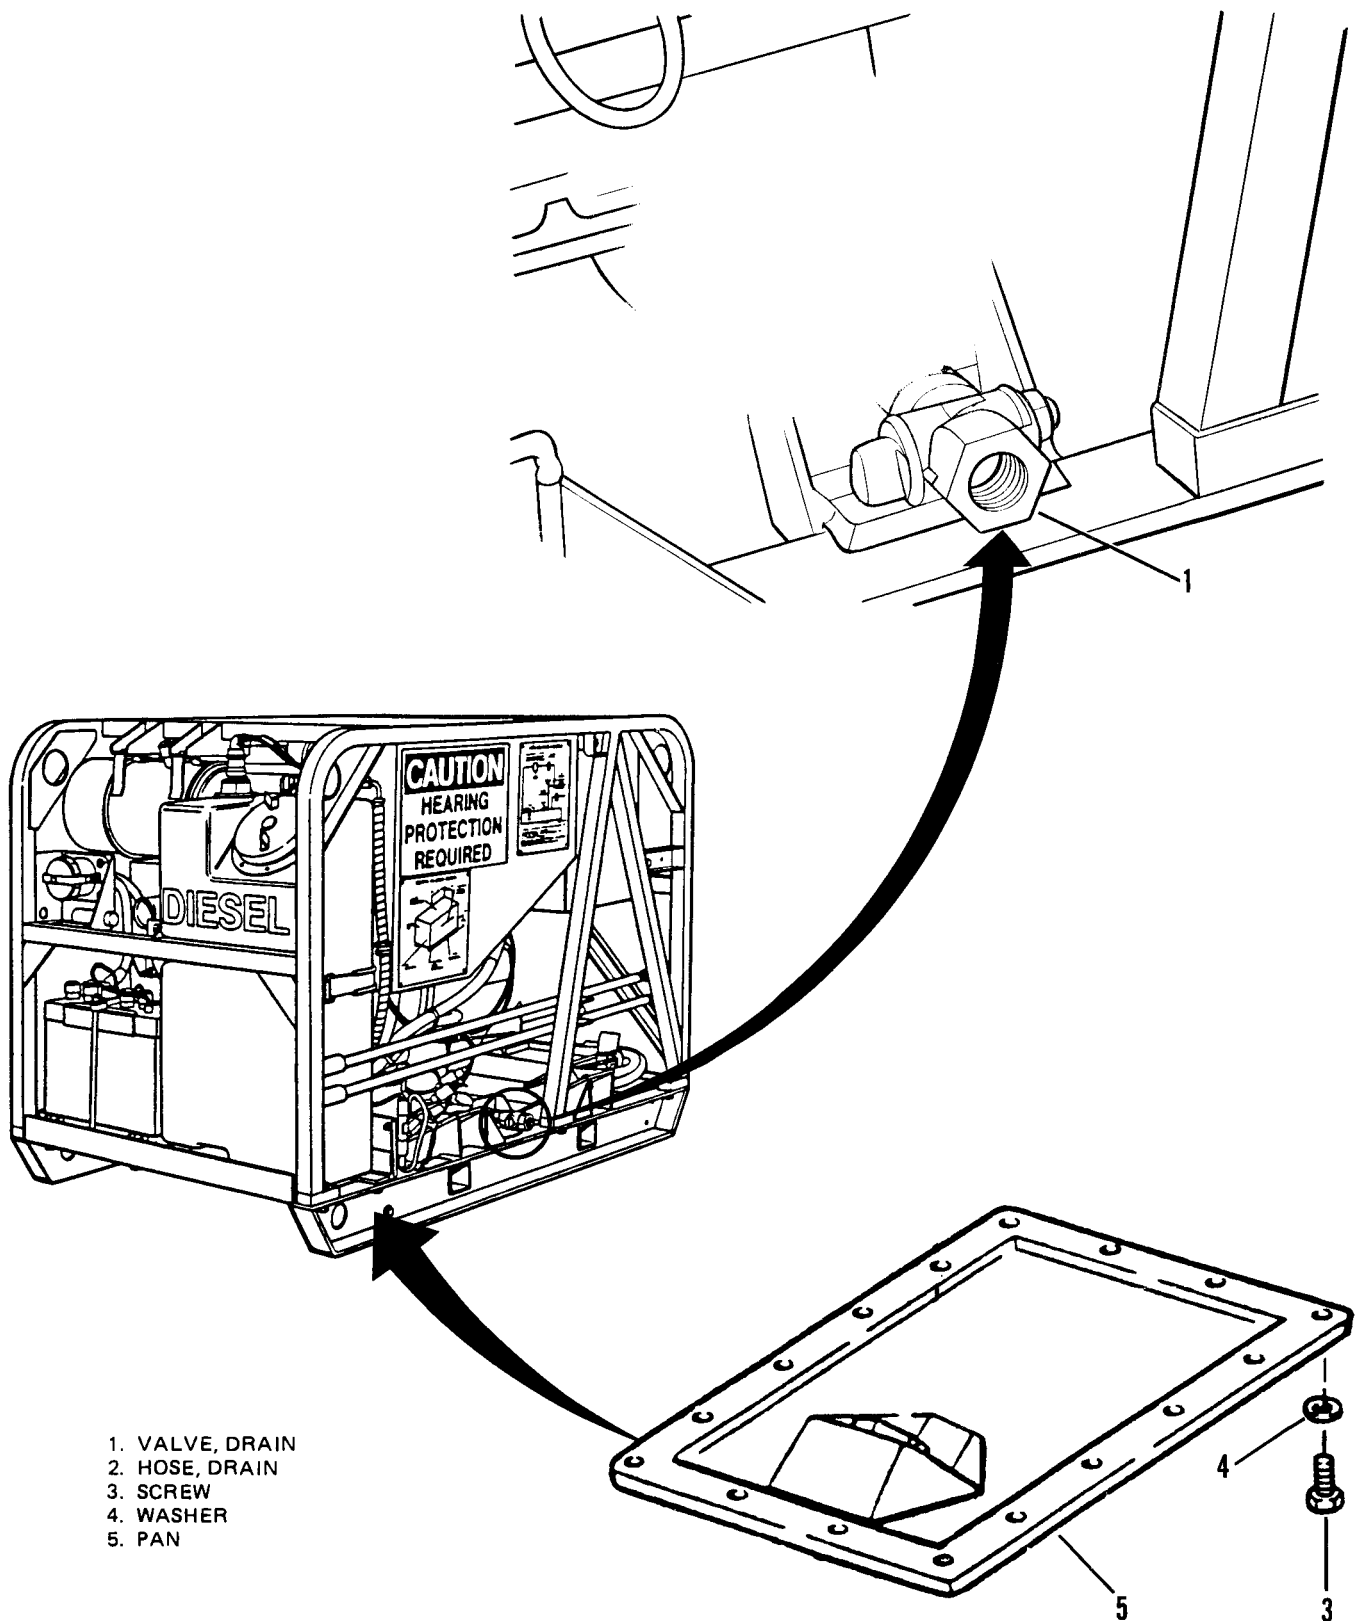

Figure 7-4. Oil Pan.
- (1) Drain engine oil into a suitable container by opening oil drain valve (1, Figure 7-4).
- (2) Remove oil drain hose (2) from oil pan.
- (3) Remove screws (3) and washers (4).
- (4) Remove oil pan (5).